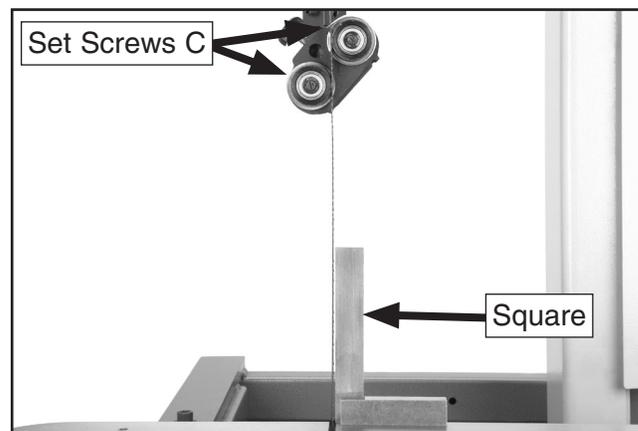

Figure 35. Blade squared.
4. Loosen set screws C (**Figure 35**).